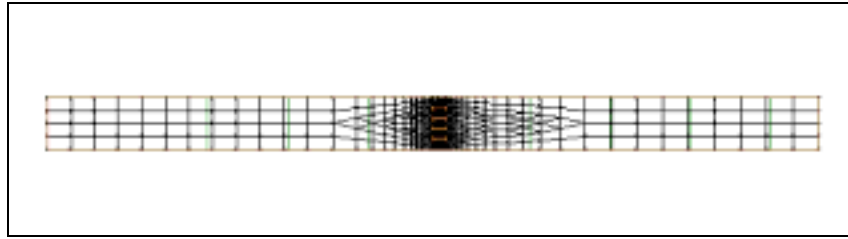

Figure 11-1 The mesh contained in the file *proto.geo*.
2. Find and highlight the file *proto.sup*. If you still have geometry data open from a previous tutorial, you will be warned that all existing mesh data will be deleted. If this happens, click *OK* to the prompt. The geometry data will open as shown in Figure 11-1.